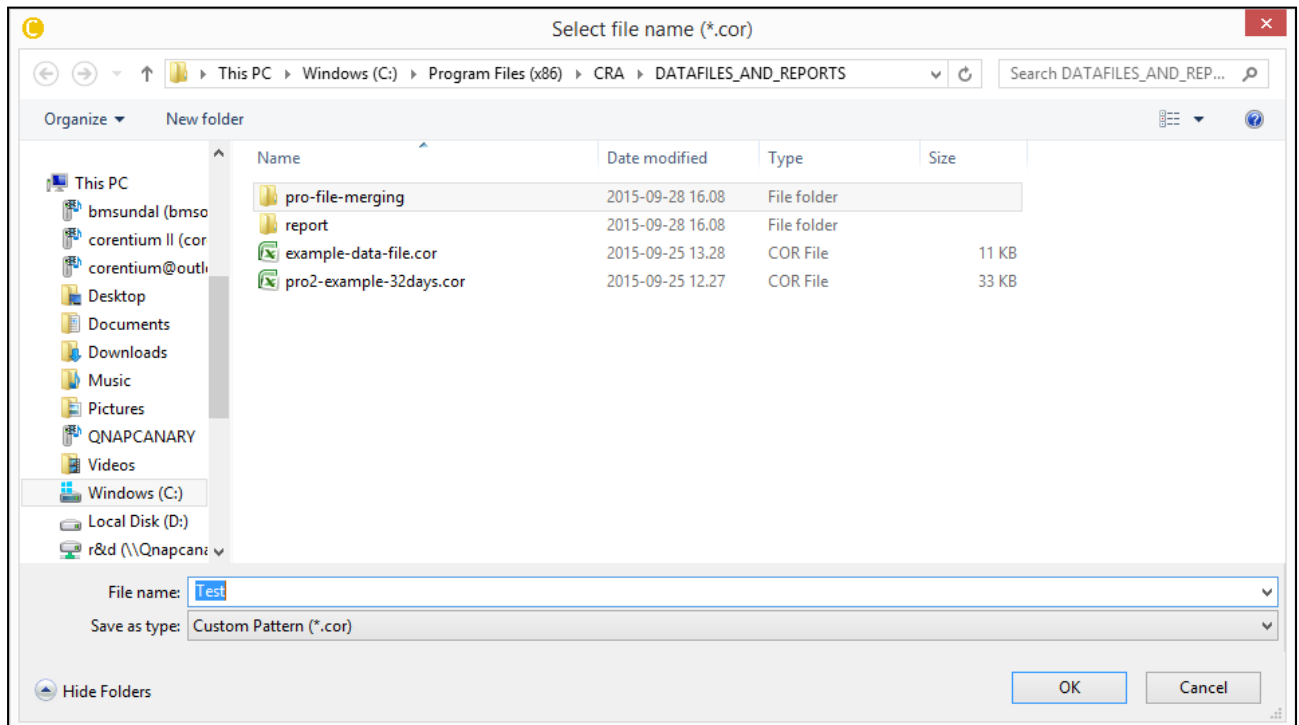

Figure 4-7: File dialog to save the Uploaded file from the PRO monitor
- e. After uploading process is completed, a dialog window pops up to save the file with default extension of ***.cor**, as shown in the Figure 4-7.